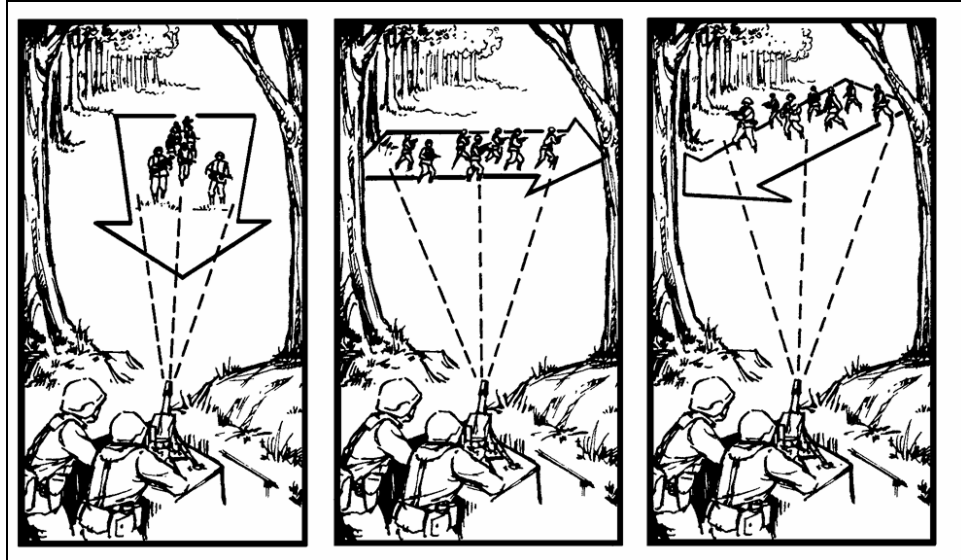

Figure 5-2a. Classes of fire with respect to the target: frontal, flanking, and oblique fires.
b. **Respect to the Target.** This class of fire is divided into four types of fire (Figure 5-2a and 5-2b):